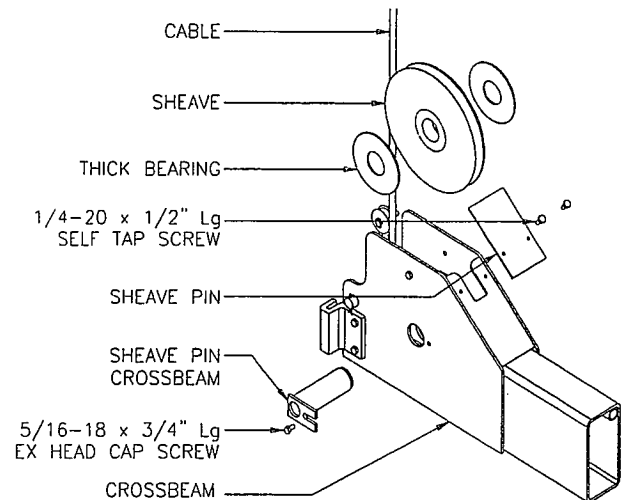

Fig 7
9. Install sheave and plastic bearings into crossbeam ends, **Fig 7**. Capture sheave and bearings with sheave pin. Bolt 5/16-18 H.H.C.S. to insure sheave pin does not walk out. Bolt rubber guard to crossbeam with 1/4-20 self tap screw. Repeat for each column.
10. Make sure the lift is located in the bay correctly and the power column is square to the crossbeam. Drill the holes for the anchors using the base plate as a template. Clean dust from the holes. Assemble the nut and washer on the anchor bolt leaving about a 1/4" of thread above the nut. Insert the anchor into the hole and tap it down to the base plate. Repeat for other (3) columns.